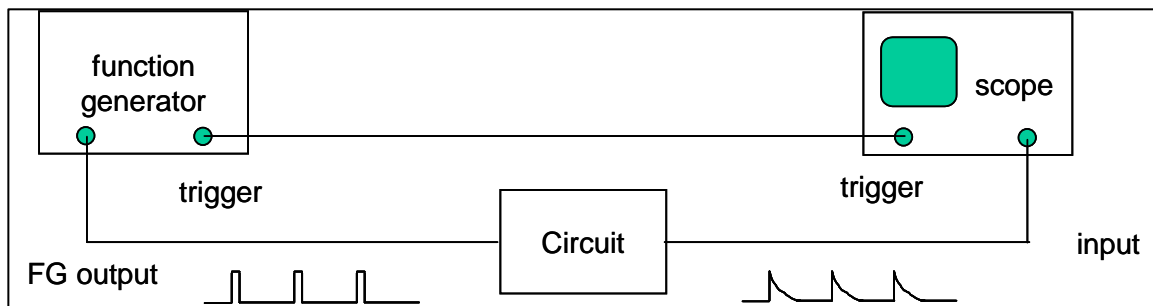

Figure 4. Experimental test setup for measuring the impulse and step response of the SUT.
The basic test setup is shown in Figure 4. The trick is to be able to create a “unit step” and an “impulse” waveform to test the system. Of course, we cannot create either of these two ideal waveforms in our part of the universe. However, we can create reasonable approximations.
1. Set up the laboratory equipment as shown in Figure 4. Be sure to use the higher frequency capability function generator. Construct your RC circuit using the values of R and C you determined in the Prelab exercises. Calculate the *actual* time constant for your circuit using *actual measured* component values.
2. Determine the waveform setting for the function generator shown in Figure 4 for simulating a step input waveform for this circuit.
4. Determine the waveform setting for the function generator shown in Figure 4 for simulating an impulse waveform for this circuit. What is the area of *your* lab impulse?